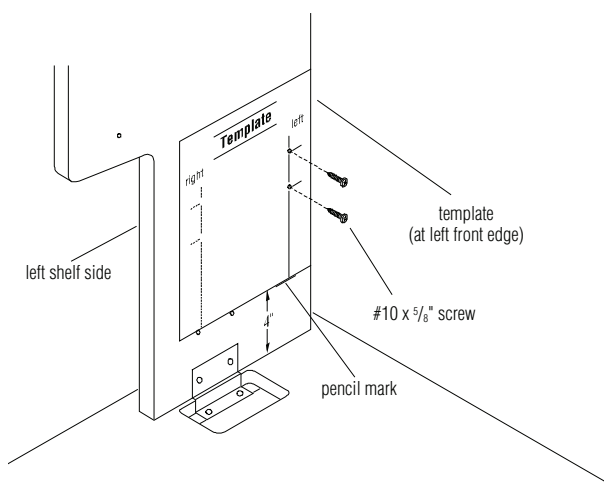

Figure 1
1. At the inside of the left shelf side, measure 4" up from the worksurface and make a small pencil mark (Figure 1).
2. On the back side of this instruction sheet is the "Work Bar Installation Template." Position the template against the front edge of the left shelf side, on the pencil mark 4" up from the worksurface (Figure 1).
4. Drill two 5/32" drill bit 1/2" deep and screw in two #10 x 5/8" screws per shelf side. Do not tighten completely (Figure 1).